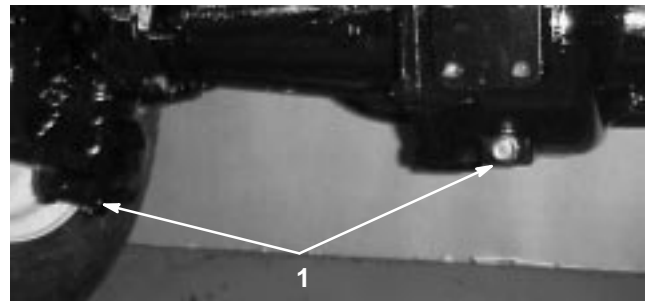

Figure 49
2. Clean the area around the 3 drain plugs, 1 on each end and 1 in the center (Fig. 49).
3. Remove the (3) oil level check plugs and main axle vent cap to ease in draining of the oil.